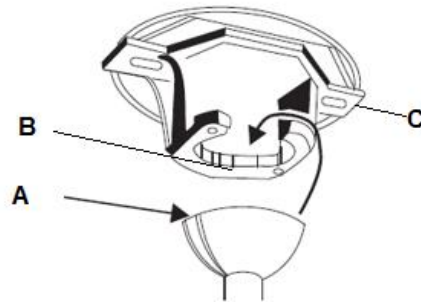

Fig. 7
Hanging the fan (Fig. 7)
Lift the fan assembly onto the mounting bracket. Ensure the **key** slot (A) of the hanger ball is positioned on the **key pin** (B) of the mounting bracket (C) to prevent the fan from rotating when in operation. (Fig.7)